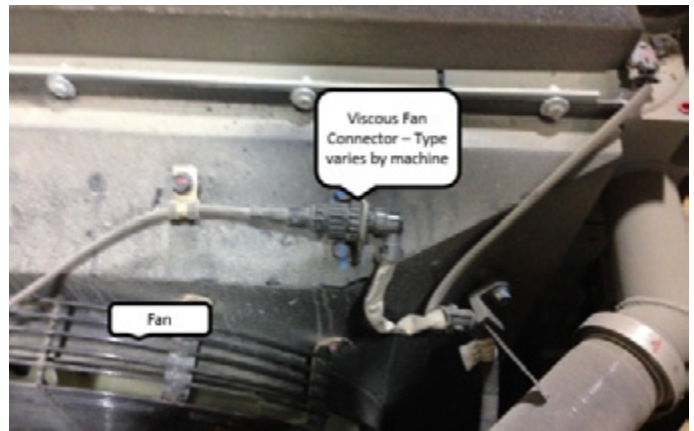

Figure 2
1. Connect the Viscous Clutch Simulator. Figure 2.